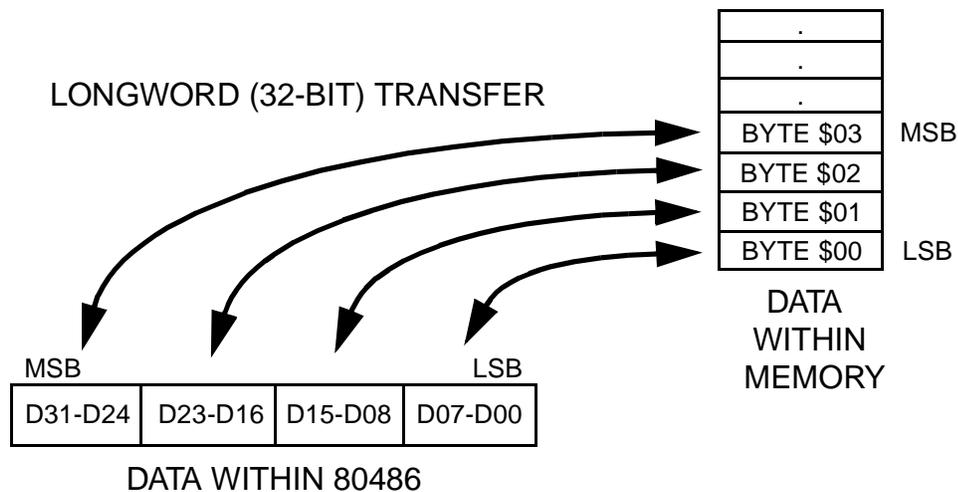
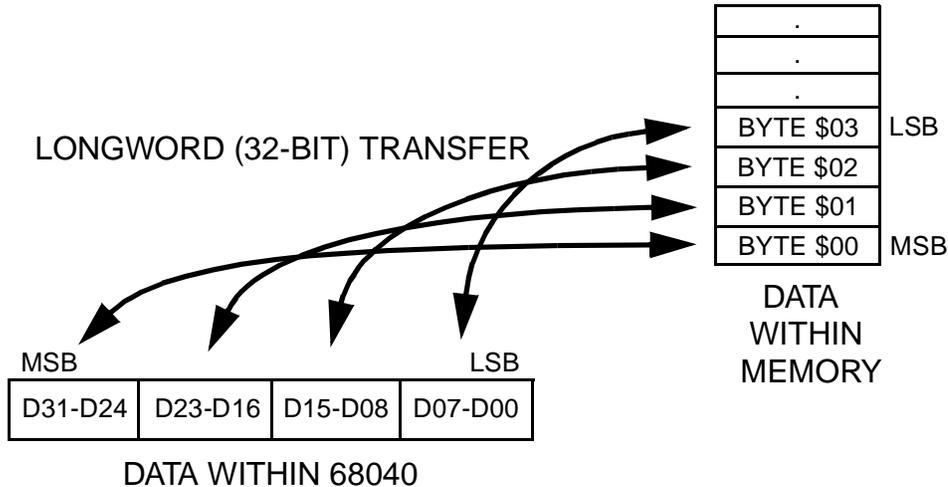

Figure 4-2 Byte Relationships using the Little Endian 80486
Figure 4-3 Byte Relationships using the Big Endian 68040
The VMIVME-7486 uses an Intel 80486 microprocessor, which uses Little Endian byte ordering. Byte arrangement and the byte relationship between data in the processor and transferred data in memory are shown in Figure 4-2.
Contrast the behavior of the Little Endian 80486 in Figure 4-2 with the same longword transfer using a Big Endian processor like the Motorola 68040 in Figure 4-3 on page 76.
The VMEbus Specification does not specify which byte of a multiple-byte transfer is most significant. The VMEbus Specification does, however, require certain byte lanes to be associated with certain byte addresses. As shown in Table 4-1, byte(0) must be transferred on data lines D31-D24 during a longword transfer while byte(3) must be transferred on lines D7-D0. This byte and address alignment is exactly the same as that for a Big Endian processor such as the Motorola 68040 in Figure 4-3.
If a Little Endian 80486 were to have its data bus directly connected to the VMEbus (i.e. D31 to D31, D30 to D30, etc.), then the most significant byte data supplied to the VMEbus D31-D24 byte lane during a longword write would be stored by the VMEbus in the lowest of the four destination byte addresses – opposite that expected by the 80486 (see Figure 4-2 on page 75). This poses no problem if the 32-bit value written is always read back using a similar longword transfer (i.e. all four bytes at once), since the swapped data gets swapped again and appears to the 80486 exactly as it should. However, if the data written by the 32-bit longword transfer were to be retrieved using any other method – say, using four separate byte transfers – a problem results, since the data at the lowest byte address would be incorrectly assumed to be the least significant, while it is actually the most significant.